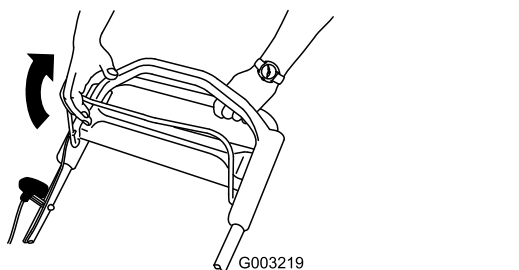

Figure 15
1. Pull the blade-control bar to the handle (Figure 15).